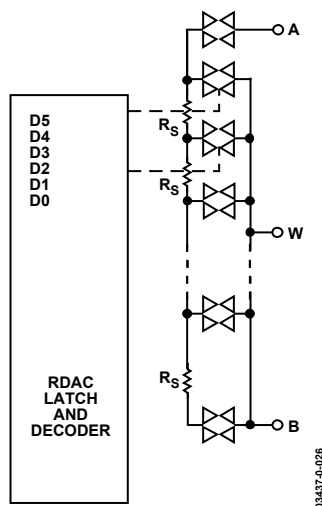

Figure 26. AD5171 Equivalent RDAC Circuit
The nominal resistance (R_{AB}) of the RDAC has 64 contact points accessed by the wiper terminal, plus the B terminal contact if R_{WB} is considered. The 6-bit data in the RDAC latch is decoded to select one of the 64 settings. Assuming that a 10 k Ω part is used, the wiper's first connection starts at the B terminal for data 0x00. Such connection yields a minimum of 60 Ω resistance between terminals W and B because of the 60 Ω wiper contact resistance. The second connection is the first tap point, which corresponds to 219 Ω ($R_{WB} = (1) \times R_{AB}/63 + R_W$) for data 0x01, and so on. Each LSB data value increase moves the wiper up the resistor ladder until the last tap point is reached at 10060 Ω ($((63) \times R_{AB}/63 + R_W$). Figure 26 shows a simplified diagram of the equivalent RDAC circuit. The general equation determining R_{WB} is